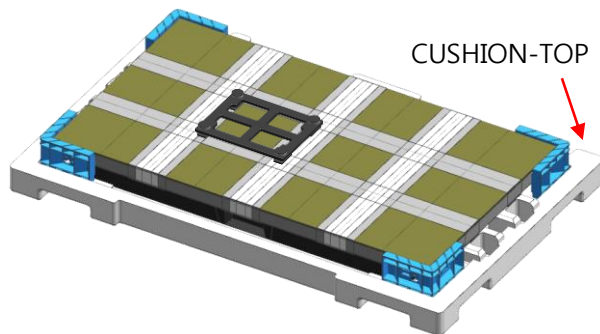

Fig.4 Cabinet Storage
- ⑤ Place the cabinet on the CUSHION-TOP with the LED side facing up and use the magnet jig to check if the module is locked. (Fig.4)